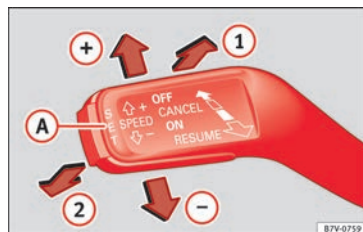

Fig. 46 On the left of the steering column: switches and controls for operating the CCS
- Switching on the CCS: move the lever to **ON** **1** »» **Fig. 46**. The system switches on but it does not control the speed as no speed has been programmed.
- Activating the CCS: press the **SET** **A** »» **Fig. 46** button. It memorises and maintains the current speed.
- Temporarily switching off the CCS: move the lever to **CANCEL** **2** »» **Fig. 46** and release it or press the brake or clutch pedal. The cruise control system is switched off temporarily.
- Reactivating the CCS: move the lever to **RESUME** **1** »» **Fig. 46** and release it. The memorised speed is saved and controlled again.
• Switching off the CCS: move the lever to position **OFF** **2** »» **Fig. 46**. The system is disconnected and the memorised speed is deleted.